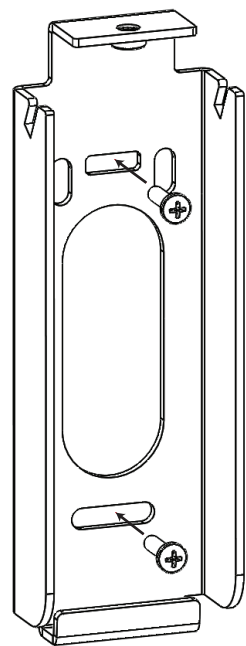

Fig. 1
1. Attach the mounting bracket to the switchbox using the appropriate fasteners - NOT INCLUDED - see Fig. 1.